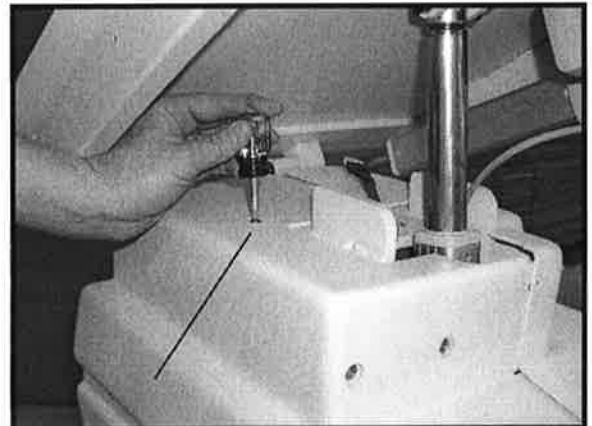

Figure 2
2) Remove the decorative vinyl strip from around the middle of the plastic base cover. With a short phillips screw driver, take the (3) small flat head phillips screws holding the two base cover halves together on both ends. Remove the single phillips screw from the top surface of the right hand base cover only, (figure 2). Remove the cover.